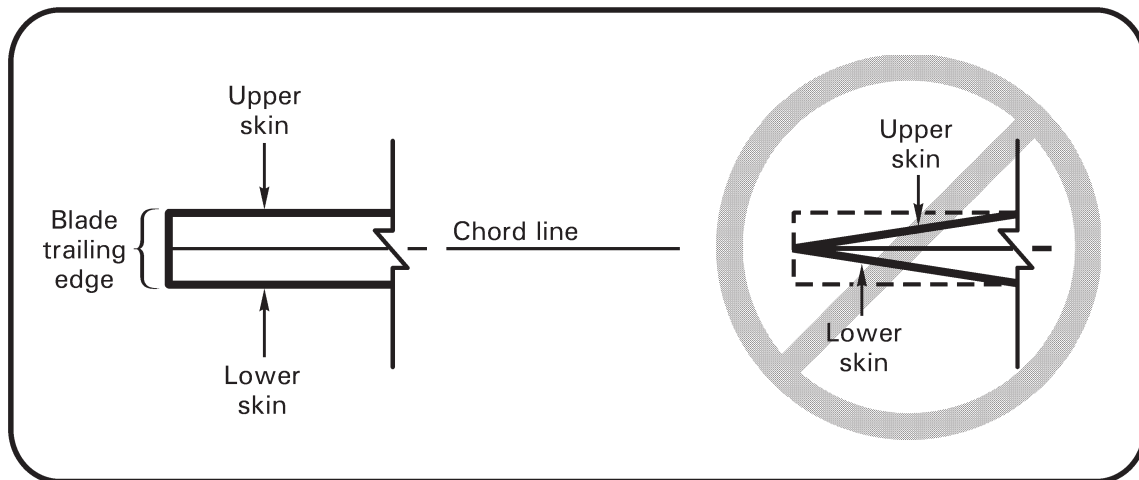

FIGURE 26-16 SANDING/FILING SKIN EDGES SQUARE
3. Polish out damage using 220 grit or finer wet-or-dry aluminum-oxide abrasive paper, and finish with 320 grit or finer wet-or-dry abrasive paper. A fine-toothed file may be used along the spar and trailing edge, provided the area is finished with 320 grit or finer wet-or-dry abrasive paper. Sand or file in spanwise direction. Remove only the material necessary to remove the damage and blend to the radius or dimension specified. Maintain squareness of trailing edge per Figure 26-16. Visually inspect and verify damage is removed.